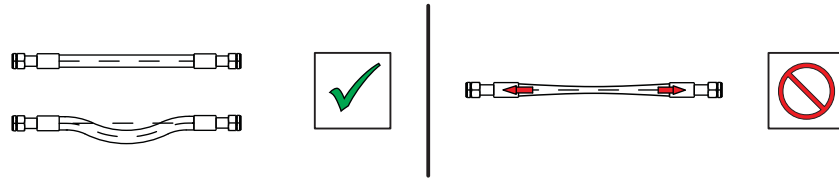

Fig. 21: Connect and fit hose lines without tension
- Install the hose lines without tension: Fig. 21.